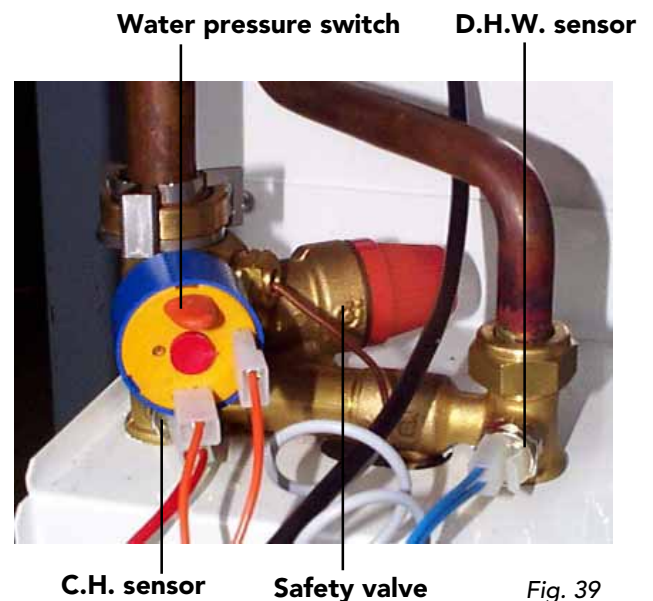

Fig. 39
## 7.07.1 D.H.W. temperature sensor or Central Heating Temperature Sensor (fig. 39)
- Identify the sensor from figure 39
## 7.07.2 Water Pressure Switch (fig. 39)
- Identify the switch from figure 39
## 7.07.3 Safety Valve (fig. 39)
- Identify valve from fig. 39